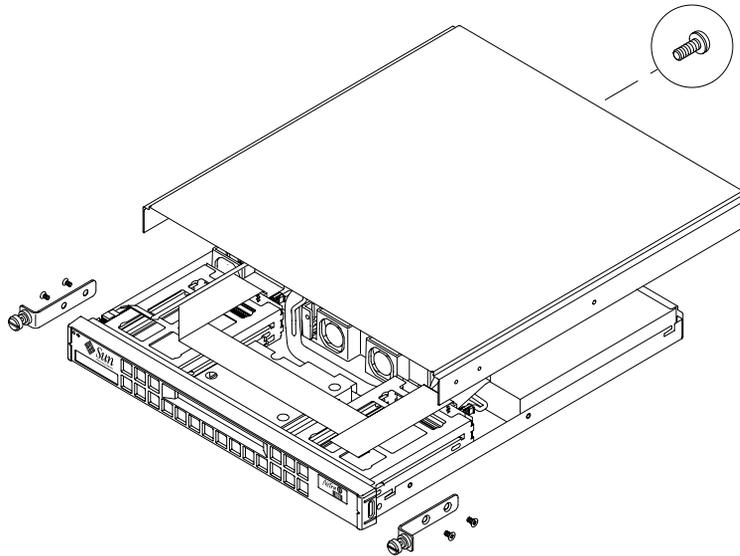

FIGURE B-9 Replacing the Lid
6. Re-install the lid and secure the screw at the rear of the unit (see FIGURE B-9).